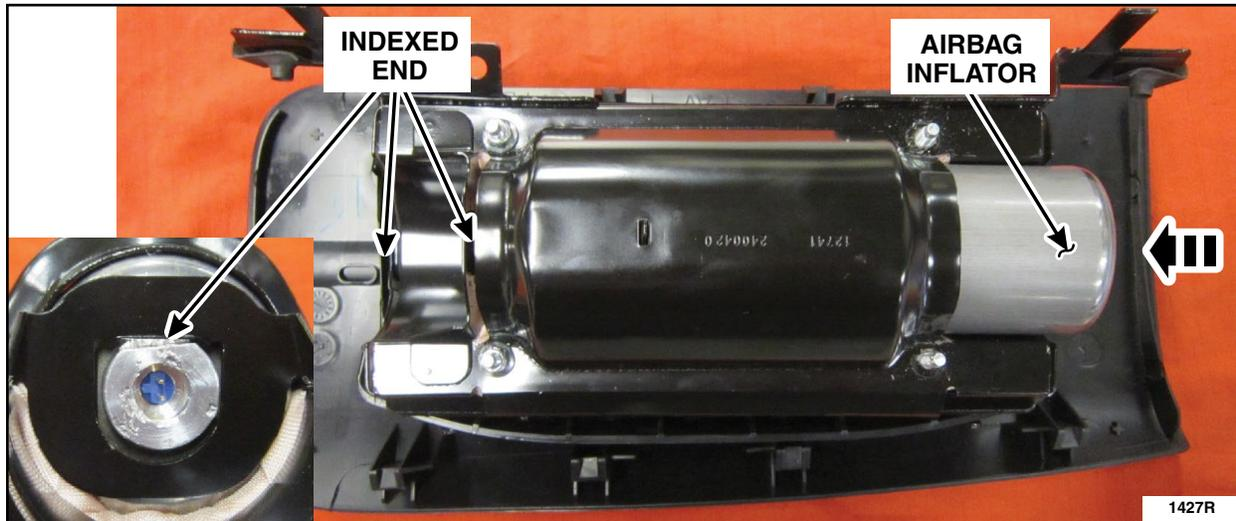

FIGURE 4
6. Install the *new* passenger airbag inflator into the airbag assembly. See Figure 4.